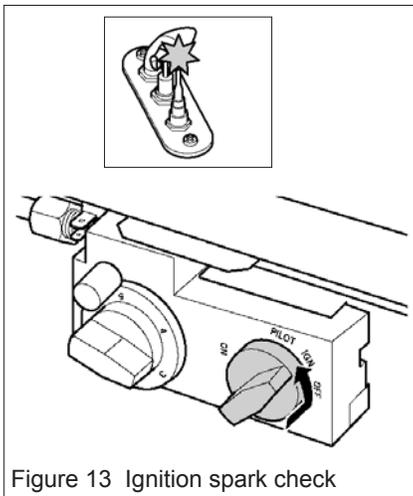

Figure 13 Ignition spark check
See figure 13.
1. Fit the adapter #817VAK over the appliance vent collars pushing on firmly. See figure 13.